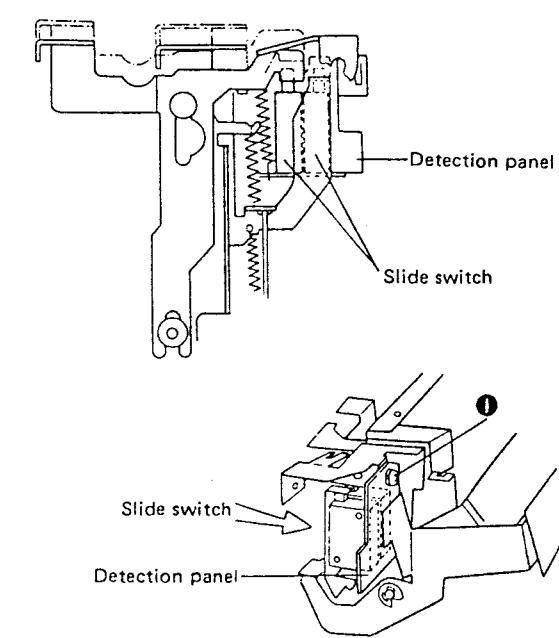

Fig. 12-5 Adjustment of detection assembly
When the STD-601 test tape is inserted, the slide switch should turn off and when the STD-604 test tape is inserted, the slide switch should turn on (see Fig. 12-5). If this switch does not operate properly, loosen screw ① in Fig. 12-5 and adjust the position of the detection panel as required.